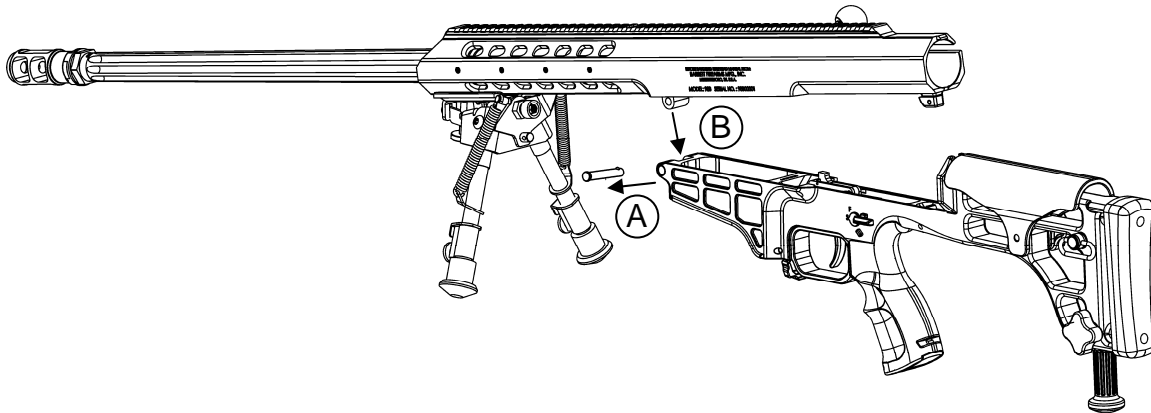

Figure 11.
5. Remove the front assembly pin to separate the receivers. (Figure 11)